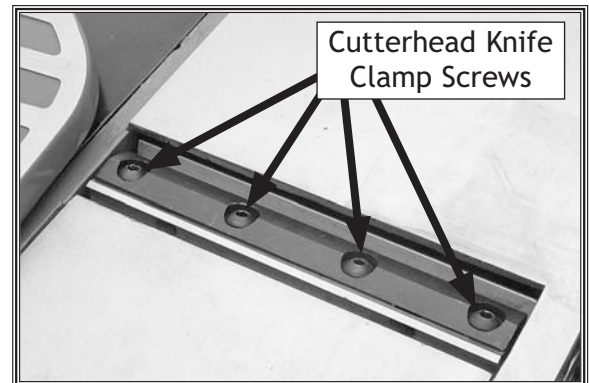

Figure 20. Cutterhead knife clamp screws.
3. Locate the knife clamp screws and knife adjustment jack screws (see Figures 20 & 21).